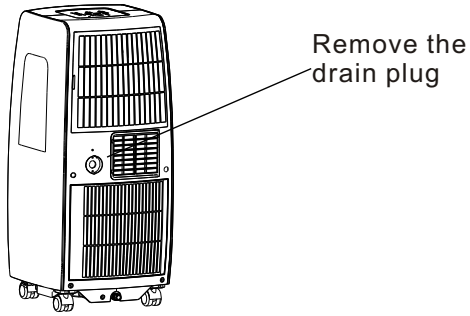

Fig.8
- During dehumidifying modes, remove the drain plug from the back of the unit, install the drain connector(5/8" universal female mender) with 3/4" hose(locally purchased). For the models without drain connector, just attach the drain hose to the hole. Place the open end of the hose directly over the drain area in your basement floor. Please refer to Fig.8 & 9.